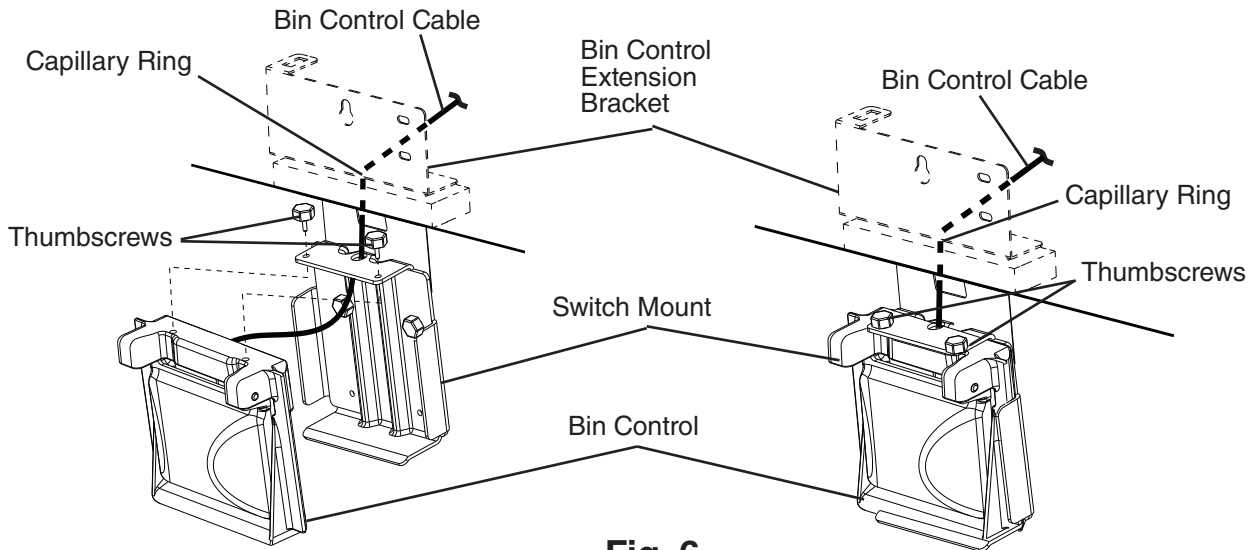

Fig. 6
- 5) Route the bin control cable up through the switch mount and the capillary ring in the bin control extension bracket, then using the thumbscrews from the accessory bag, install the bin control to the switch mount. See Fig. 6.